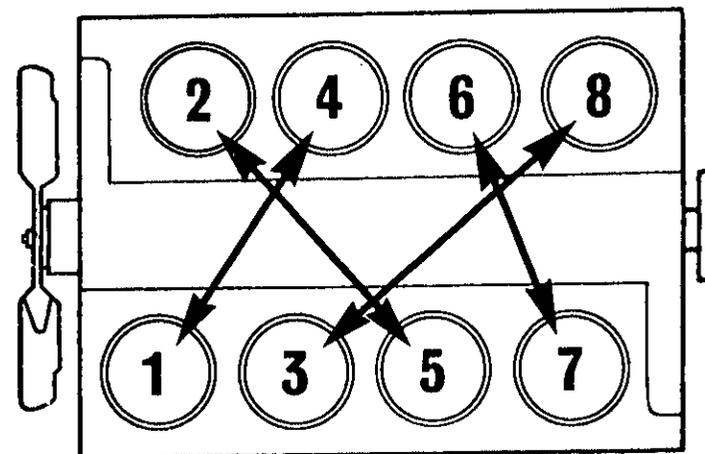

Fig. 12 Respective cylinders for valve tip clearance check.
Left bank (see fig. 12).
If necessary, the valve tip clearances can be checked/adjusted in the firing order 1, 8, 7, 5, 4, 3, 6, 2. To do this set the valves of the other cylinders (see fig. 12) to the position given in (1) above in the sequence 4, 3, 6, 2, 1, 8, 7, 5.